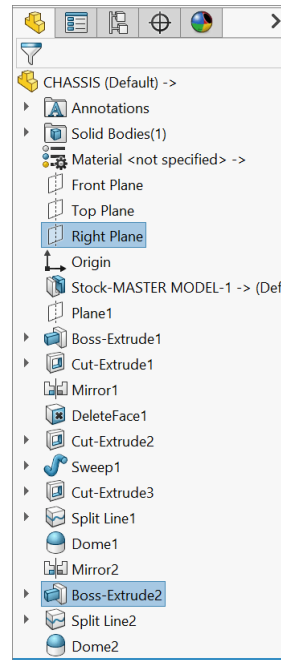

Fig. 70
- Step 2. **Ctrl click Right Plane** and **Boss-Extrude2** features to select plane and feature, **Fig. 70**.